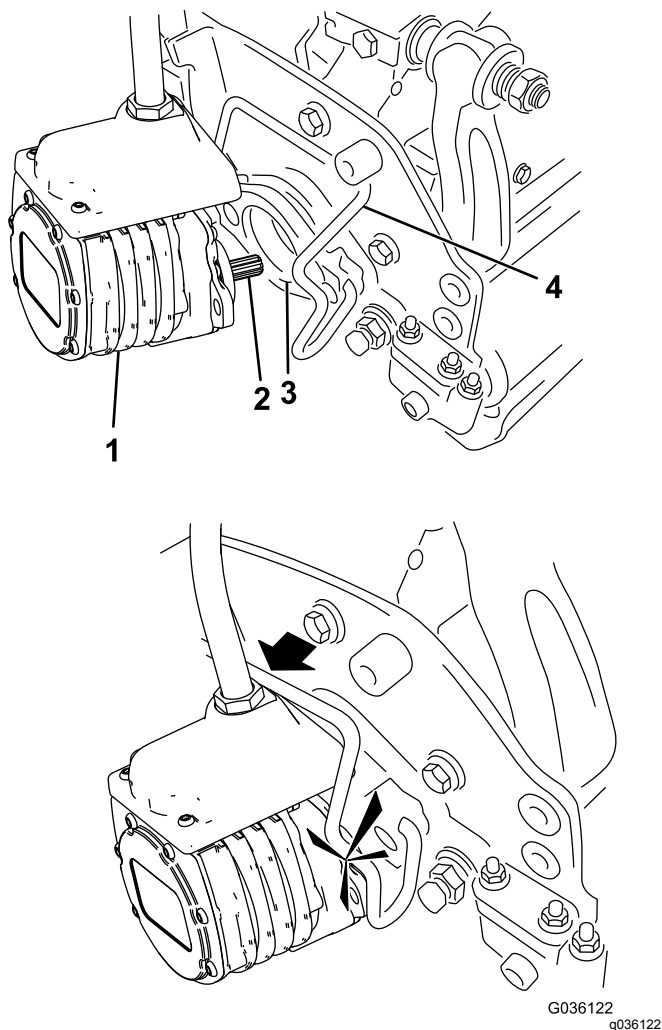

Figure 52
- Coat the spline shaft of the cutting unit motor with clean grease (Figure 52).
- Insert the motor into the left side of the cutting unit (as viewed from the operator's position) and pull the motor retaining bar on the cutting unit toward the motor until you hear a click from both sides of the motor (Figure 52).